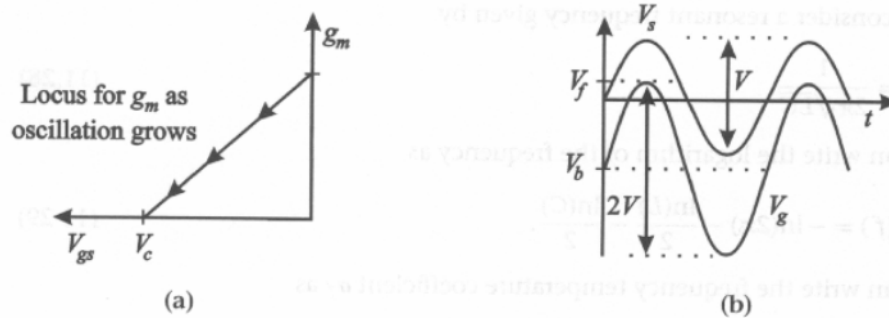

Figure 11.7. Effect of the gain-limiting diode on g_m as the oscillation builds up (a). V_{gs} and V_g waveforms (b).
3. As V_{gs} becomes more negative, g_m decreases, as shown in Fig. 11.7(a):
The steady-state JFET source and gate voltages are sketched in Fig. 11.7(b) above. This can be directly compared with the oscilloscope screen shot shown on page 7.